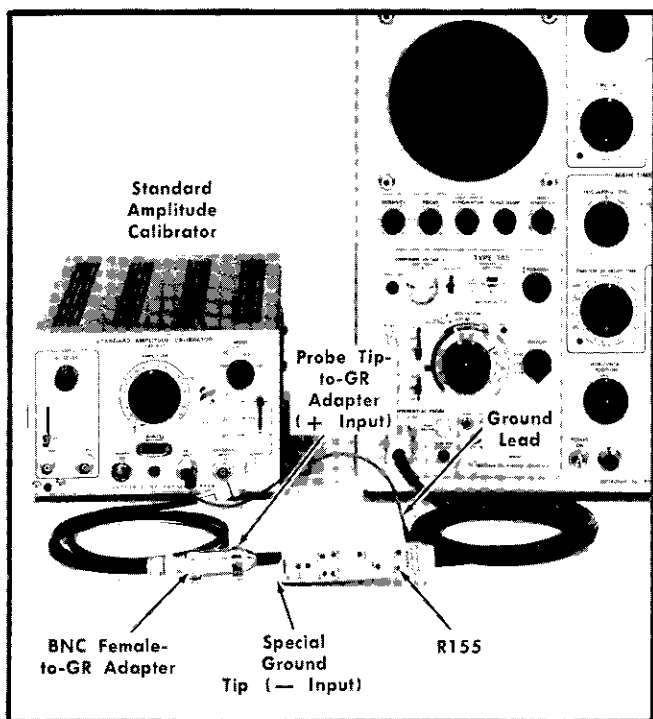

Fig. 6-7. Equipment setup for gain adjustment, step 4.
- a. The preliminary control settings apply. The equipment setup and adjustment location appear in Fig. 6-7.
i. ADJUST—Gain (R155, Fig. 6-7) for exactly 5 divisions (with the Type 1A5) or 4 divisions (with the Amplifier For P6046) amplitude between centers of the two traces. Adjust the vertical POSITION control as necessary for convenient measurement.